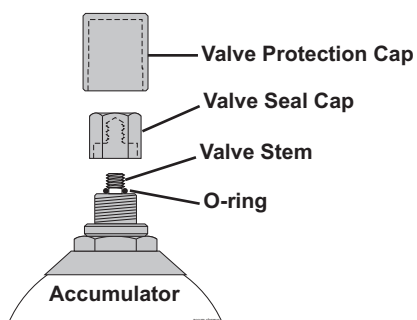

Figure 38
17. Replace the gas valve seal cap (tighten to 22 ft-lb), and hand-tighten the valve protection cap (Figure 38).